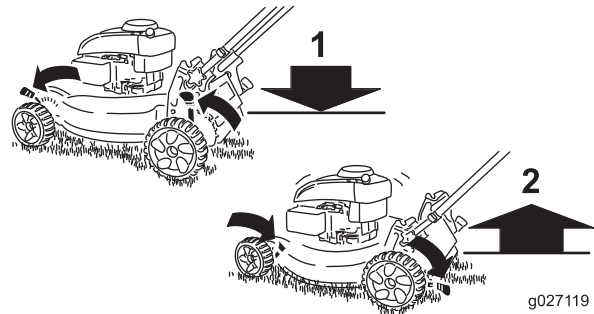

Figure 12
**Note:** To raise the machine, move all the cutting-height levers rearward. To lower the machine, move all the cutting-height levers forward (Figure 12).